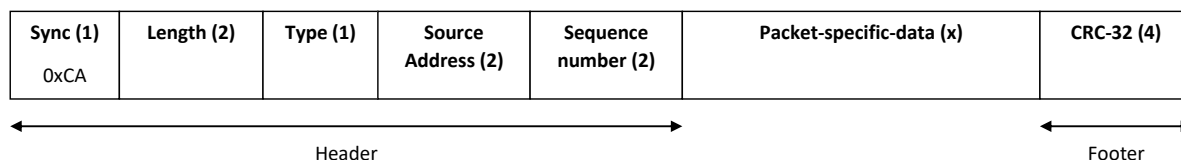

Figure 14: Page datagram generic format
- <header>: The generic header shown in Figure 14 with the type field set to 0
- Message length (2): The length of the “Message (x)” field (the only variable length portion of this packet)
- Baud rate (2): The baud rate as an integer (ie, 512, 1200, 2400).
- Page class (1): Determines the encoding of the message, one of:
- Cap code (4): Also known as pager ID, pager address, pager number, etc. The destination cap code for this message. For POCASG the valid cap codes are 1 to $(2^{21})-1$
- Function override (1): When set to 0, does not override the “function” bits in the address codeword and instead uses the page class to determine the function bits. When set to 1 through 4 will encode the page as per the page class format, however it will override the function bits to this value.
- <footer>: The generic footer shown in Figure 14
- <header>: The generic header shown in Figure 14 with the type field set to 1.
- Response code (4): A 32-bit response code:
- <footer>: The generic footer shown in Figure 14.
- <header>: The generic header shown in Figure 14 with the type field set to 2.